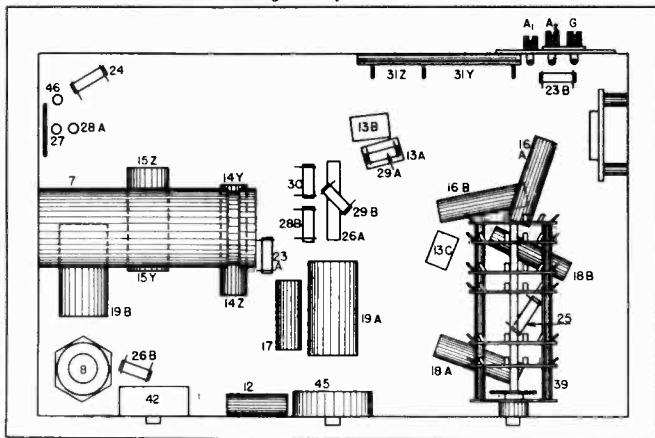

Fig. 3. Bottom View
**NOTE:** On the band selector switch there is a small eyelet soldered to one of the connecting lugs. This eyelet, item No. 23, is used as a small condenser the capacity of which is formed by inserting an insulated wire into the sleeve of the eyelet. If a new band selector switch is installed care should be taken to see that the "capacity wire" is inserted into the sleeve of the eyelet. This insulated wire should be passed through the eyelet and a slight hook made in the end to prevent it from pulling out. (See Fig. 3).